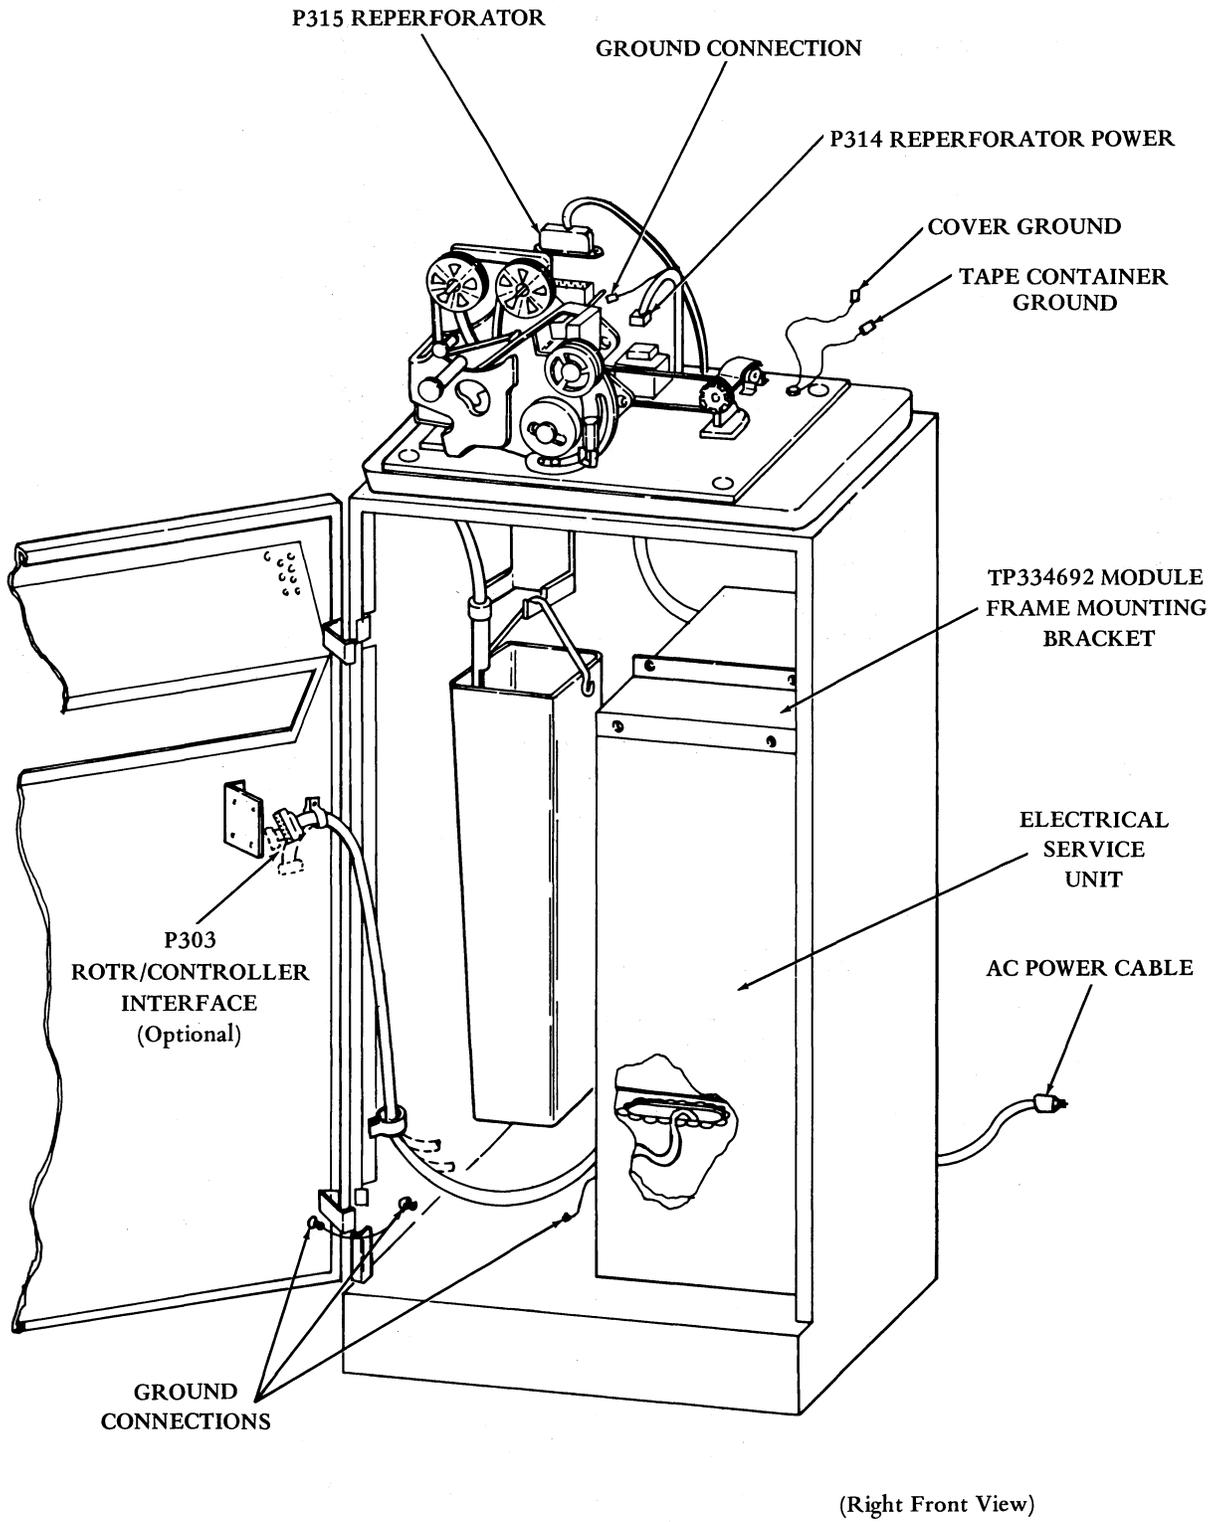

Figure 6 - Cable Routing and Connections
6.01 For maintenance and servicing, the electrical service unit may have to be removed. See 37 ROTR Set Removal and Replacement of Components, Section 574-303-702. Cable routing information for the 37 ROTR Set is shown in Figure 6.